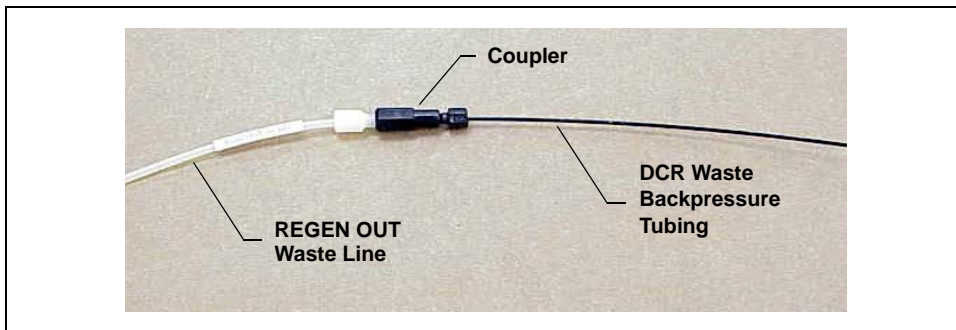

Figure 4-2. Liquid Lines Connected to Bottles
2. Verify that a DCR waste backpressure tubing assembly (P/N 060214) is installed on the **REGEN OUT** waste line (see Figure 4-2). The tubing assembly